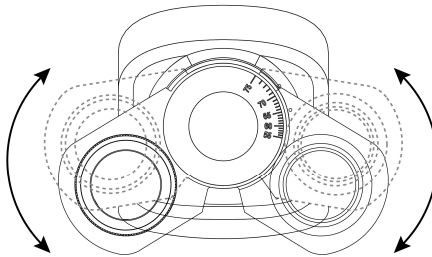

Fig.5
- While looking through the digital microscope, grasp the eyetubes and move them on their hinges until the two circular fields in the observation field coincide with each other. (Fig.5)